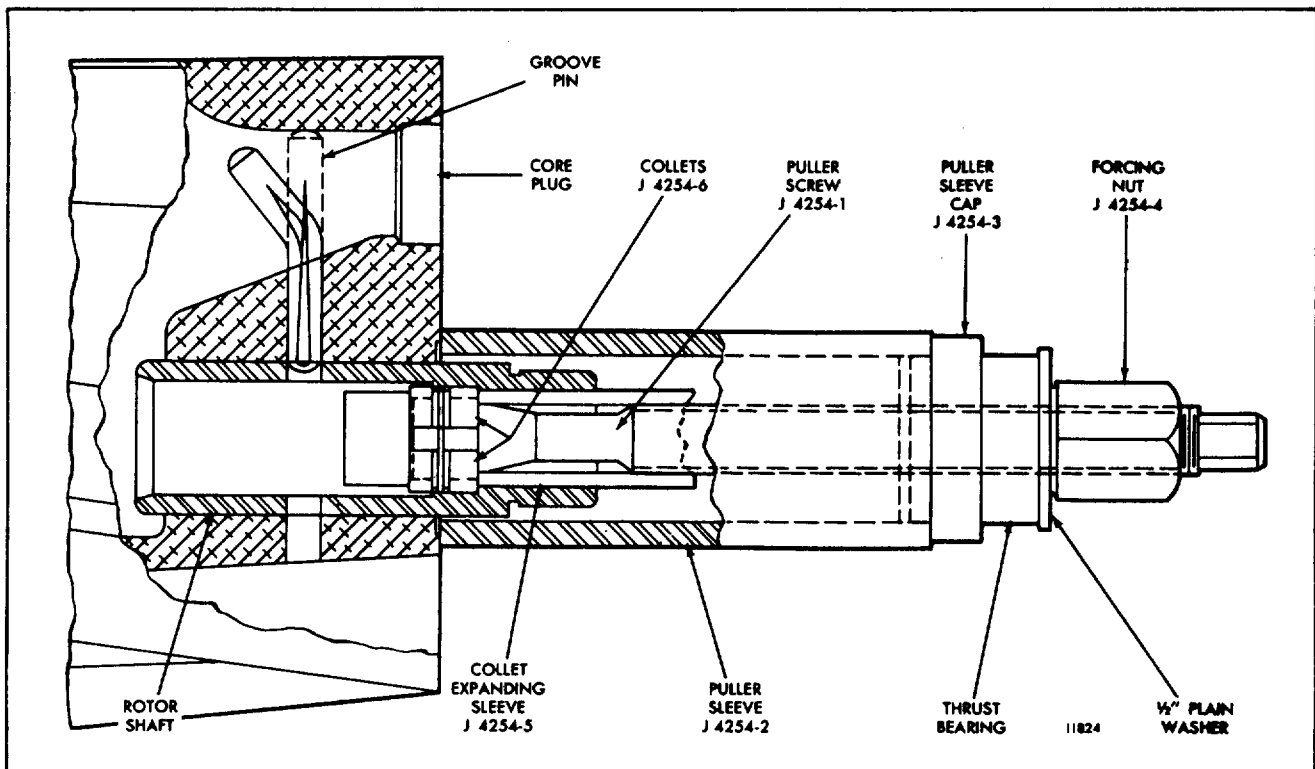

Fig. 1 - Removing Rotor Stub Shaft.
Refer to Fig. 1 and attach the fuel pump, water pump, blower drive shaft cover and governor weight housing assembly to the blower as follows:
4. Attach the blower drive shaft cover (33) to the blower rear end plate cover (29) with cover seal (37) and seal clamp (114) as shown in Fig. 1.
Refer to Fig. 1 for identification and location of the parts.